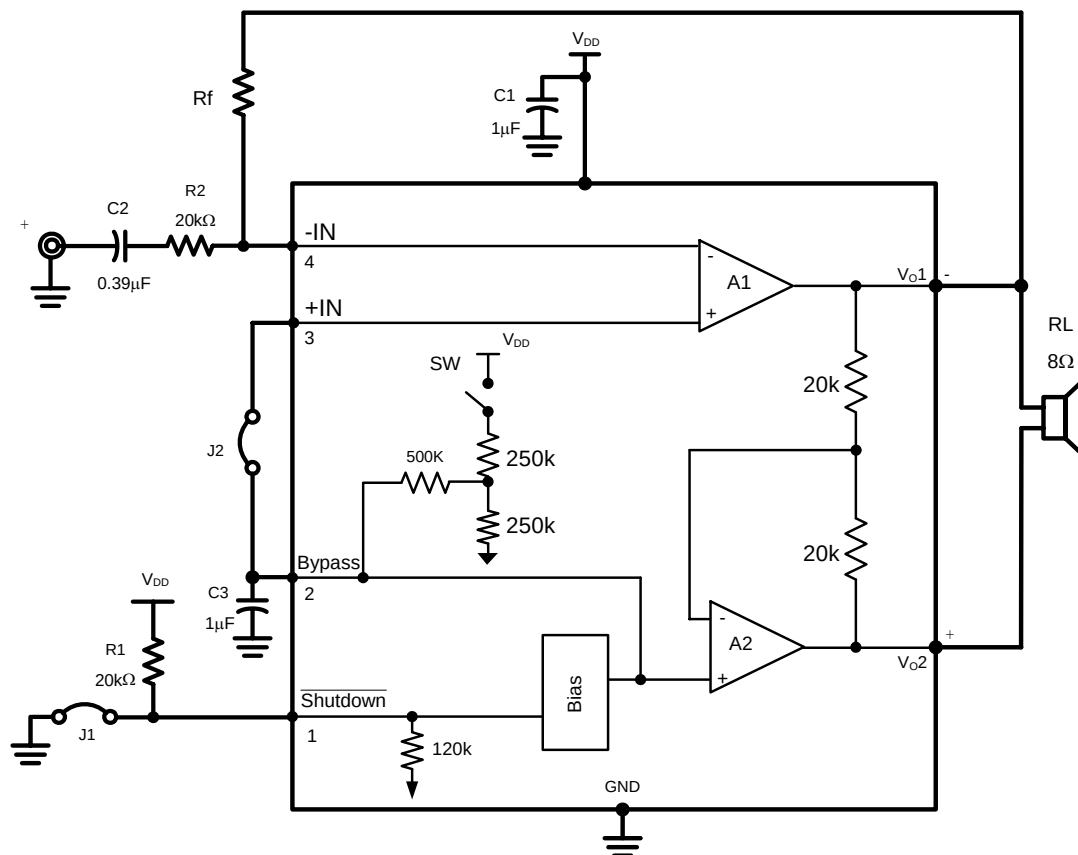

FIGURE 1. Typical Audio Amplifier Application Circuit
- PSRR at 217Hz, VDD = 5V (Fig. 1) 60dB(typ.)
The following specifications apply for the circuit shown in Figure 1 unless otherwise specified. Limits apply for $T_A = 25^\circ C$.
Note 10: PSRR is a function of system gain. Specifications apply to the circuit in Figure 1 where $A_v = 2$. Higher system gains will reduce PSRR value by the amount of gain increase. A system gain of 10 represents a gain increase of 14dB. PSRR will be reduced by 14dB and applies to all operating voltages.
External Components Description (Figure 1)
As shown in *Figure 1*, the EMA1001 has two operational amplifiers internally, A1 and A2, allowing for a few different amplifier configurations. A1's gain is externally configurable, while A2 is internally fixed in a unity-gain, inverting configuration. The closed-loop gain of A1 is set by selecting the ratio of R_1 to R_2 , while A2's gain is fixed by the two internal $20k\Omega$ resistors. *Figure 1* shows that the output of A1 serves as the input to A2, which results in both amplifiers producing signals identical in magnitude, but out of phase by 180° . Hence, the differential gain for the IC is